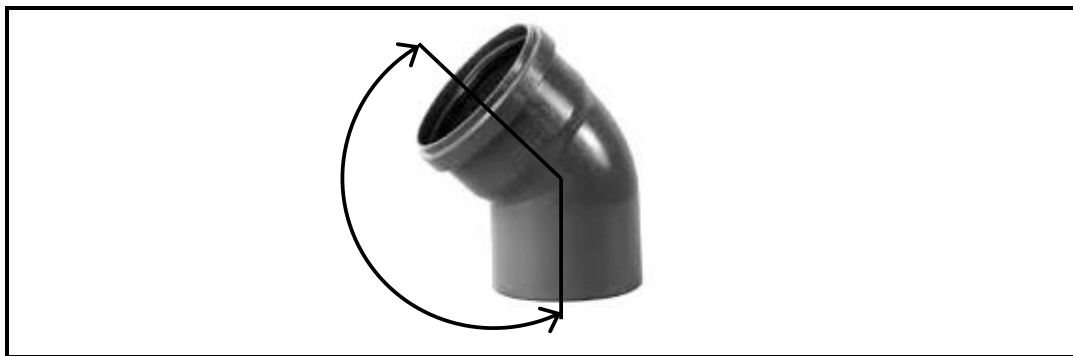

FIGURE 4.5
- 4.5 What is the angle of the soil-water bend in FIGURE 4.5? (1)